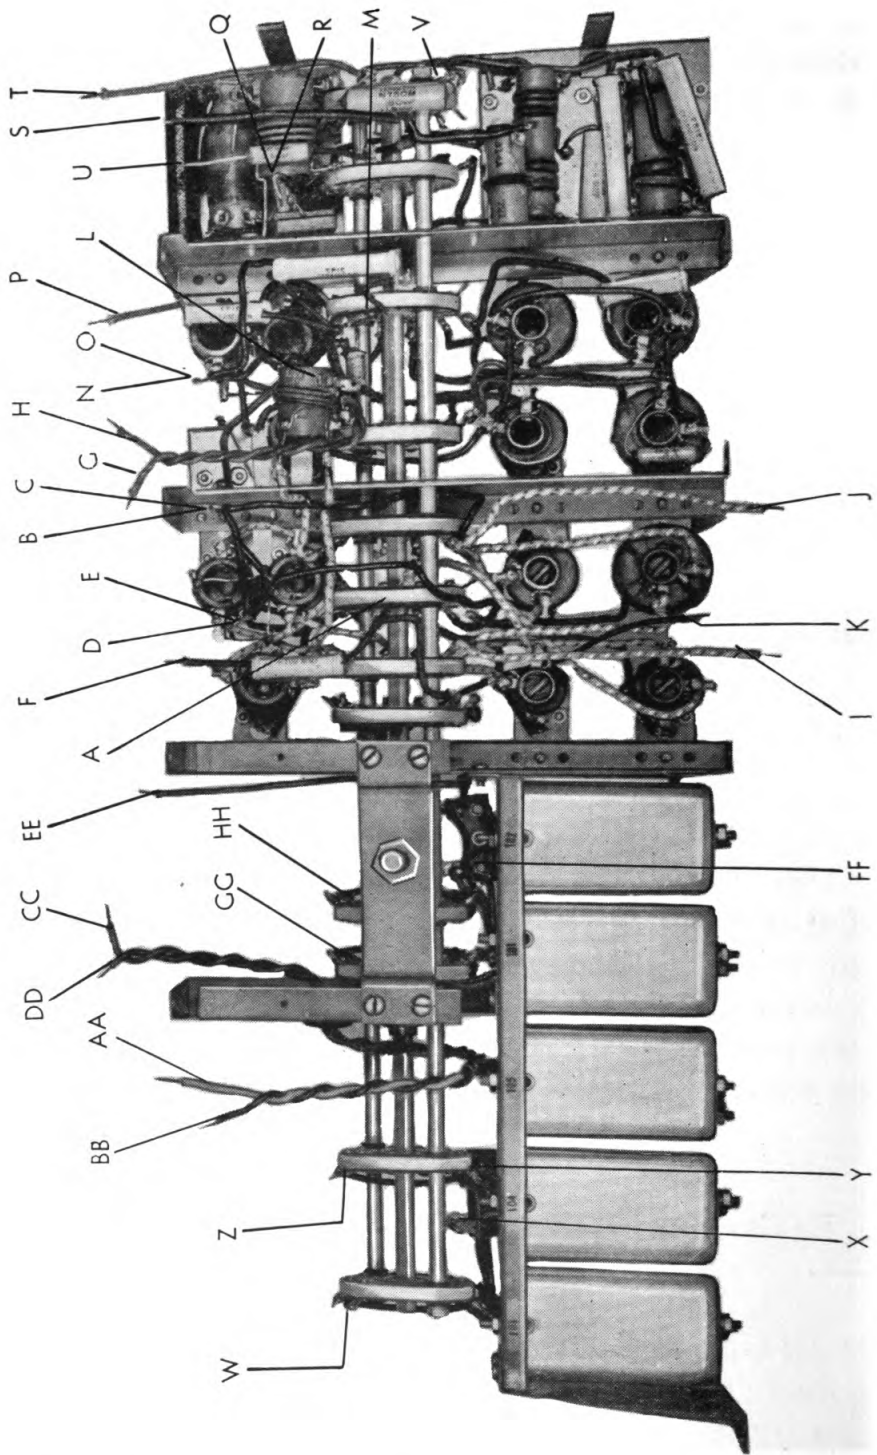
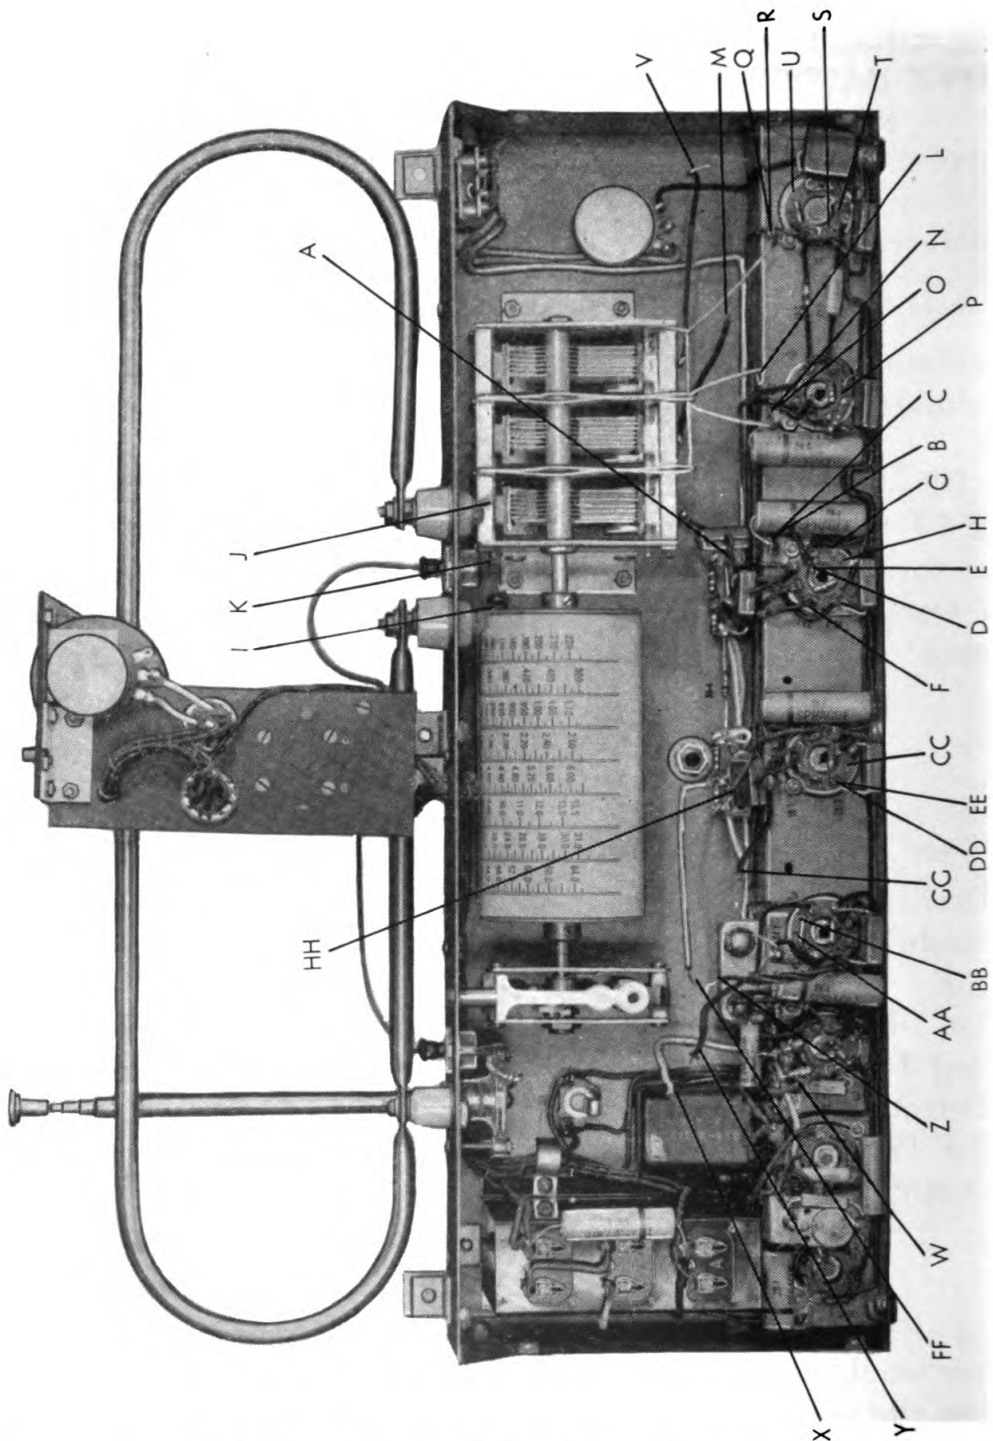

Figure 29. Radio Receiver BC-792-A, Underside View of Band Switch Assembly Showing Designations of Leads and Terminal Points
Figure 30. Radio Receiver BC-792-A, Rear View With Band Switch Assembly Removed From Chassis, Showing Designations of Leads and Terminal Points
(1) Remove all batteries.
(2) Set tuning control to low frequency end of dial (if this is not done, the tuning capacitor plates may become bent in the following work).
(3) Disconnect the control head completely by removing the connectors and plugs.
*b.* Figure 29 shows the switch assembly removed from the receiver. Figure 30 shows the receiver chassis after the switch assembly has been removed. Note that in each figure certain leads remain with each unit. In disconnecting the leads at their terminals, make certain that they remain with the units exactly as shown in these two figures. To identify the leads and their respective connecting terminals they have been designated with the same reference letter. Since there are 34 connections, the designations go from A to Z and from AA to HH. There is no significance attached to the use of the double letter designations beyond that necessary to distinguish them from the single letter. After all 34 junctions have been unsoldered, remove the screws fastening the switch partitions to the chassis. There's a